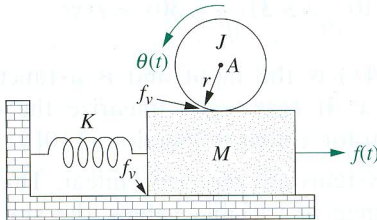

FIGURE P2.25
39. In the system shown in Figure P2.25, the inertia,  $J$ , of radius,  $r$ , is constrained to move only about the stationary axis  $A$ . A viscous damping force of translational value  $f_v$  exists between the bodies  $J$  and  $M$ . If an external force,  $f(t)$ , is applied to the mass, find the transfer function,  $G(s) = \theta(s)/F(s)$ . [Sections: 2.5; 2.6]